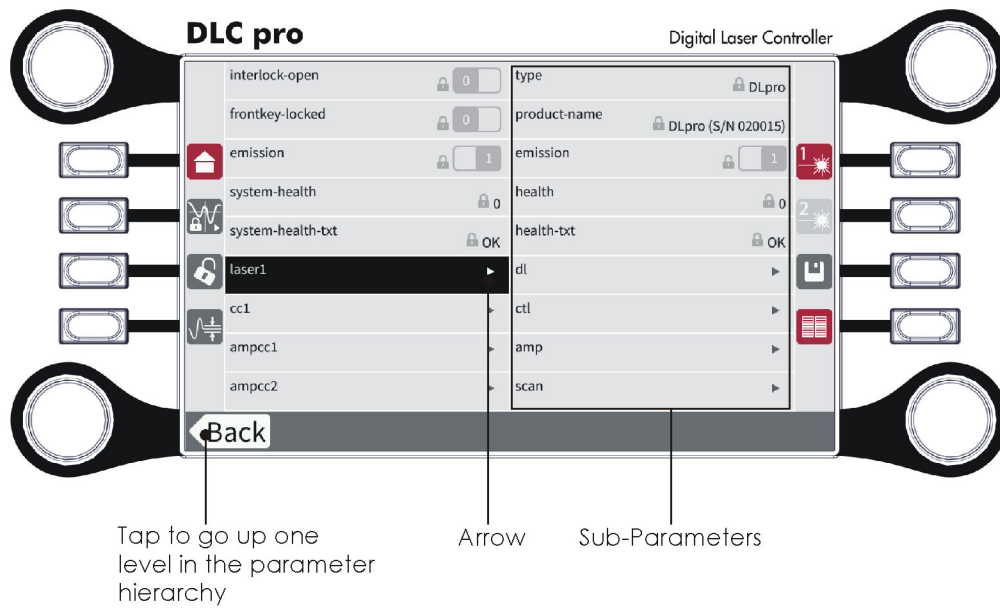

Figure 51 Sub-parameters
- An arrow indicates that further sub-parameters are accessible (see Figure 51). The sub-parameters are context sensitive; only parameters relevant to the respective DLC pro system appear.